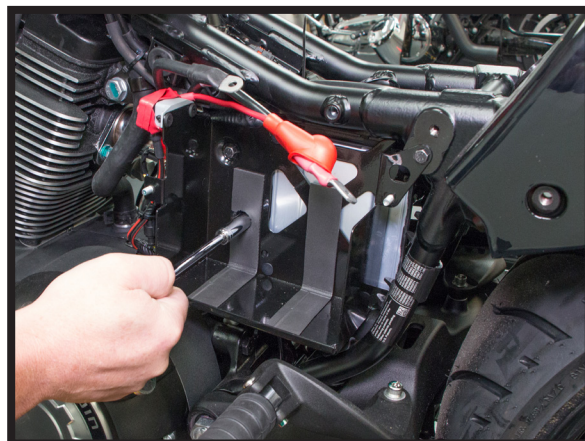

FIGURE 7
3. REMOVE THE 3 BOLTS MOUNTING THE BATTERY BOX AND PULL IT OUT OF THE FRAME AS FAR AS POSSIBLE. (FIGURES 7, 8)